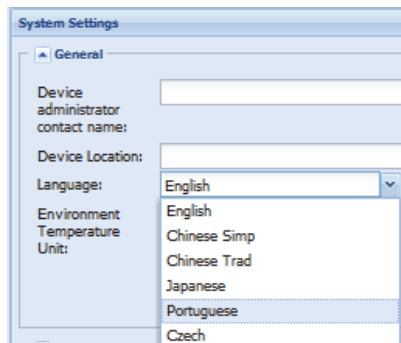

Figure 84. Change Language on System Settings Page
4. To change the language, select a language from the drop down list (see Figure 84).